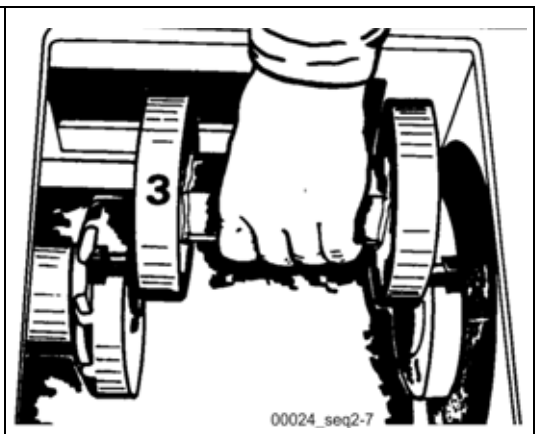

Fig. 327
- Remove the distance piece (Fig. 327).